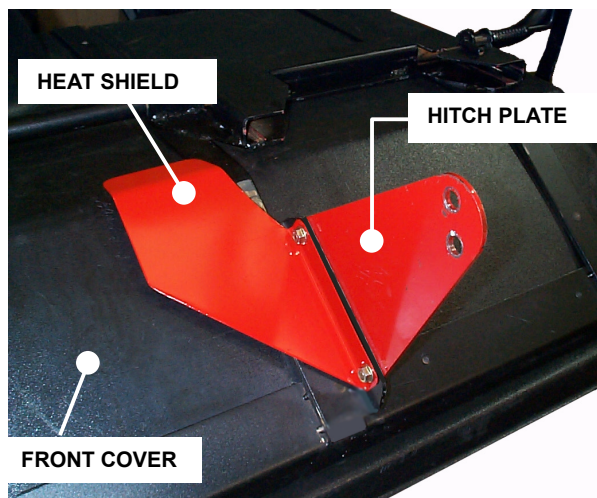

FIGURE 1.4
- A. Attach triangular shaped Hitch Plate to bottom of Front Cover Assembly. Orientation of the holes in the hitch plate is important, observe picture carefully before assembling. Align holes in Hitch Plate and Front Cover Frame. Insert (2) 5/16-18 x 5/8" Flange Lock hex bolts. Place Heat Shield over bolts as shown and secure with (2) 5/16-18 Flange Lock hex nuts.
**Do not tighten at this time.** See Figure 1.4.